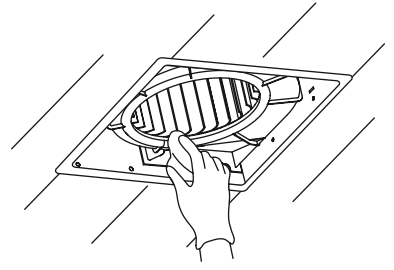

Figure 9
4. Dampen cloth with dish detergent and wipe the fan housing. Wipe dry with a cloth (Fig. 9).